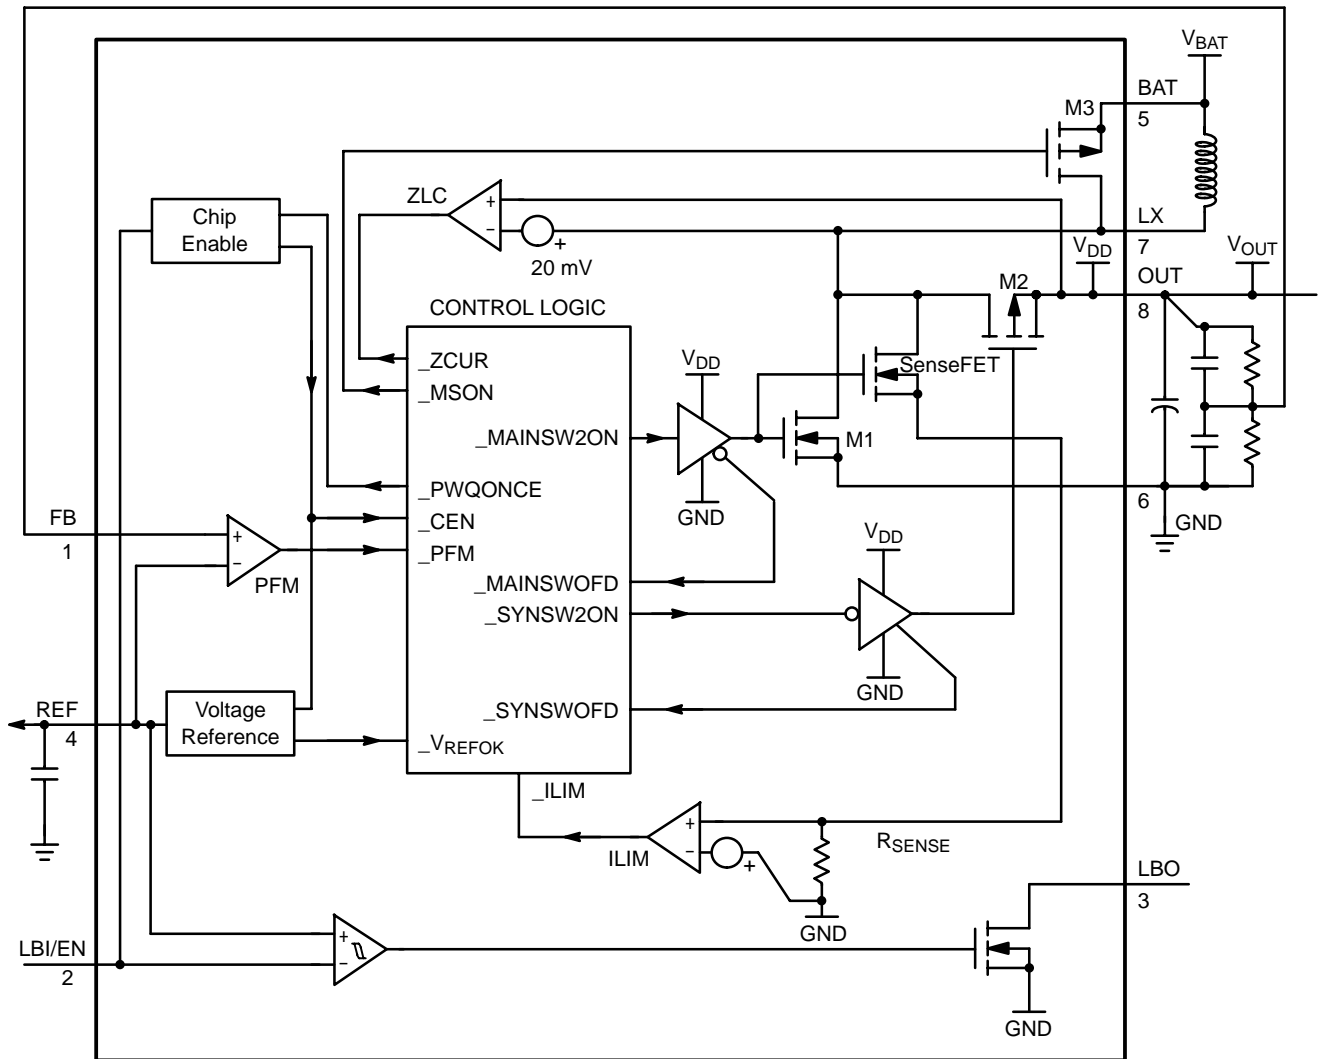

Figure 2. Simplified Functional Diagram
From the simplified Functional Diagram (Figure 2), the output voltage is divided down and fed back to pin 1 (FB). This voltage goes to the non-inverting input of the PFM comparator whereas the comparator's inverting input is connected to REF. A switching cycle is initiated by the falling edge of the comparator, at the moment, the main switch (M1) is turned ON. After the maximum ON-time (typical 1.4  $\mu$ S) elapses or the current limit is reached, M1 is turned OFF, and the synchronous switch (M2) is turned ON. The M1 OFF time is not less than the minimum OFF-time (typical 0.31  $\mu$ S), this is to ensure energy transfer from the inductor to the output capacitor. If the regulator is operating at continuous conduction mode (CCM), M2 is turned OFF just before M1 is supposed to be ON again. If the regulator is operating at discontinuous conduction mode (DCM), which means the coil current will decrease to zero before the next cycle, M1 is turned OFF as the coil current is almost reaching zero. The comparator (ZLC) with fixed offset is dedicated to sense the voltage drop across M2 as it is conducting, when the voltage drop is below the offset, the ZLC comparator output goes HIGH, and M2 is turned OFF. Negative feedback of closed loop operation regulates voltage at pin 1 (FB) equal to the internal voltage reference (1.190 V).
From Figure 2, SenseFET is applied to sample the coil current as M1 is ON. With that sample current flowing through a sense resistor, sense-voltage is developed. Threshold detector (ILIM) detects whether the sense-voltage is higher than preset level. If it happens, detector output signifies the CONTROL LOGIC to switch OFF M1, and M1 can only be switched ON as next cycle starts after the minimum OFF-time (typical 0.31  $\mu$ S). With properly sizing of SenseFET and sense resistor, the peak coil current limit is set at 1.0 A typically.